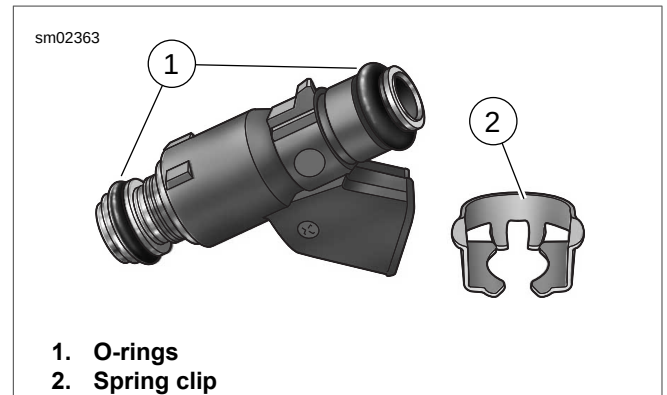

Figure 4-32. Fuel Injector
5. See Figure 4-32. Remove spring clips (2) from fuel injectors. Pull fuel injectors from fuel rail. To overcome the resistance of the top O-ring, gently rock each fuel injector while pulling.
6. Remove O-rings (1) from fuel injectors. Discard O-rings.
1. See Figure 4-32. Apply a thin coat of clean engine oil to new fuel injector O-rings (1). Install on fuel injectors.